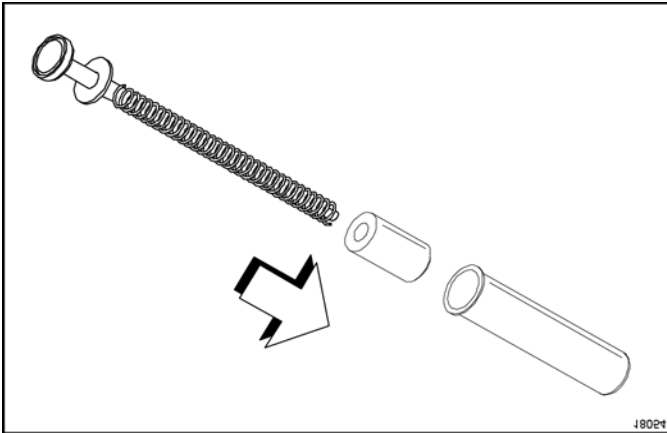

Figure 6-94
5. Remove the plunger tube and the insert from the plunger assembly. (See Figure 6-94)